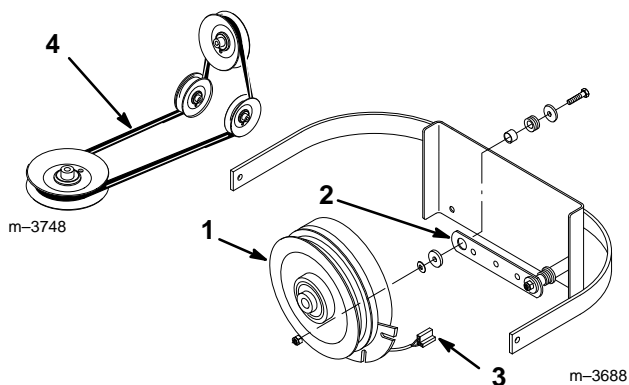

Figure 16
2. Remove the clutch retaining strap and unplug clutch terminal from wire harness (Fig. 16).
4. Install clutch retaining strap and plug clutch terminal into main wire harness (Fig. 16).